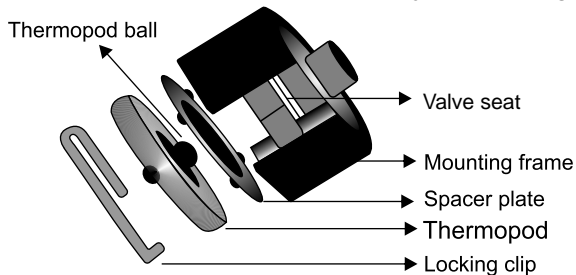

Figure11: Maintaining the air vent assembly
7.6 Inspection and maintenance of air vent assembly: (Refer to Figure 11)
2. Fit new gasket between mounting frame and body of the trap. (not visible in the figure 11), valve seat and mounting frame.